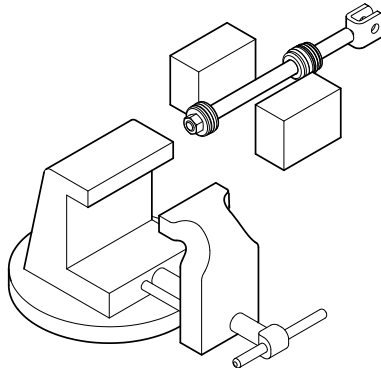

Figure 5-2, Cylinder Shaft
6. Clamp the rod assembly in a soft jawed vise on the wrench flats, not on the rod surface. If the rod does not have wrench flats use two pieces of wood on both sides of the rod to prevent scarring. (Figure 5-2).